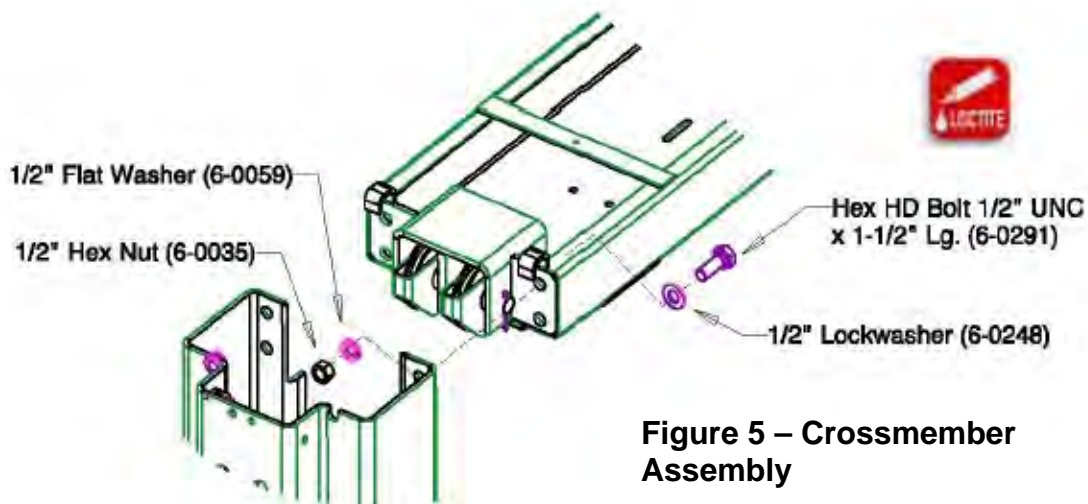

Figure 5 – Crossmember Assembly
4. Using a stepladder, install the crossmember using eight (8) 1/2"-16UNC x 1 1/2" lg. hex head bolts, eight (8) 1/2" ID lock washers, eight (8) 1/2" hex nuts and eight (8) 1/2" flat washers. See **Figure 5**.